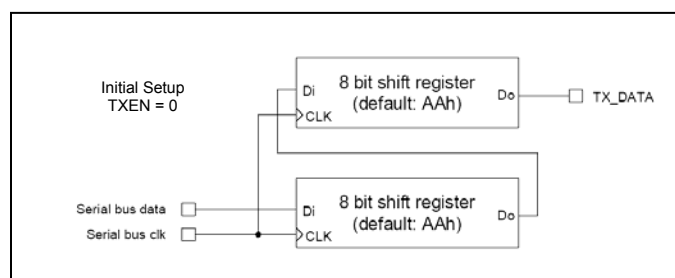

FIGURE 5. Initial TX Register Setting
The initial value on power-up of the register is AAh. This can be used to send a preamble signal by setting Bit [5] of the *Power Management Register* (See Figure 5 below). When this bit is set, transmission begins immediately and the initial value AAh is sent. The SDO pin(4) may be monitored to see when the next byte of data may be written to the register (SDO is logic '1'). It is recommended that the register be preloaded with a preamble regardless of the POR value.